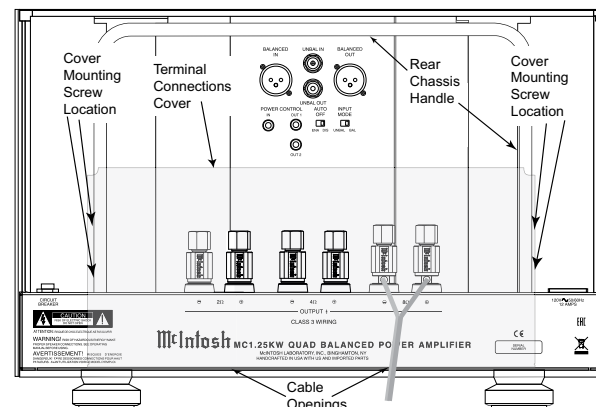

Figure 6 (Outside USA and Canada)
- Locate the Terminal Connections Cover from the inside of the MC1.25KW shipping carton. Insert the just prepared Loudspeaker hookup cables thru the cover opening on the right side. Refer to figure 6.
Note: The illustration in figure 6 is connections for 8Ω (ohms) Loudspeakers.
- Attach the Terminal Connections Cover to the MC1.25KW Rear Panel with the previously removed Screws. Refer to figure 6.